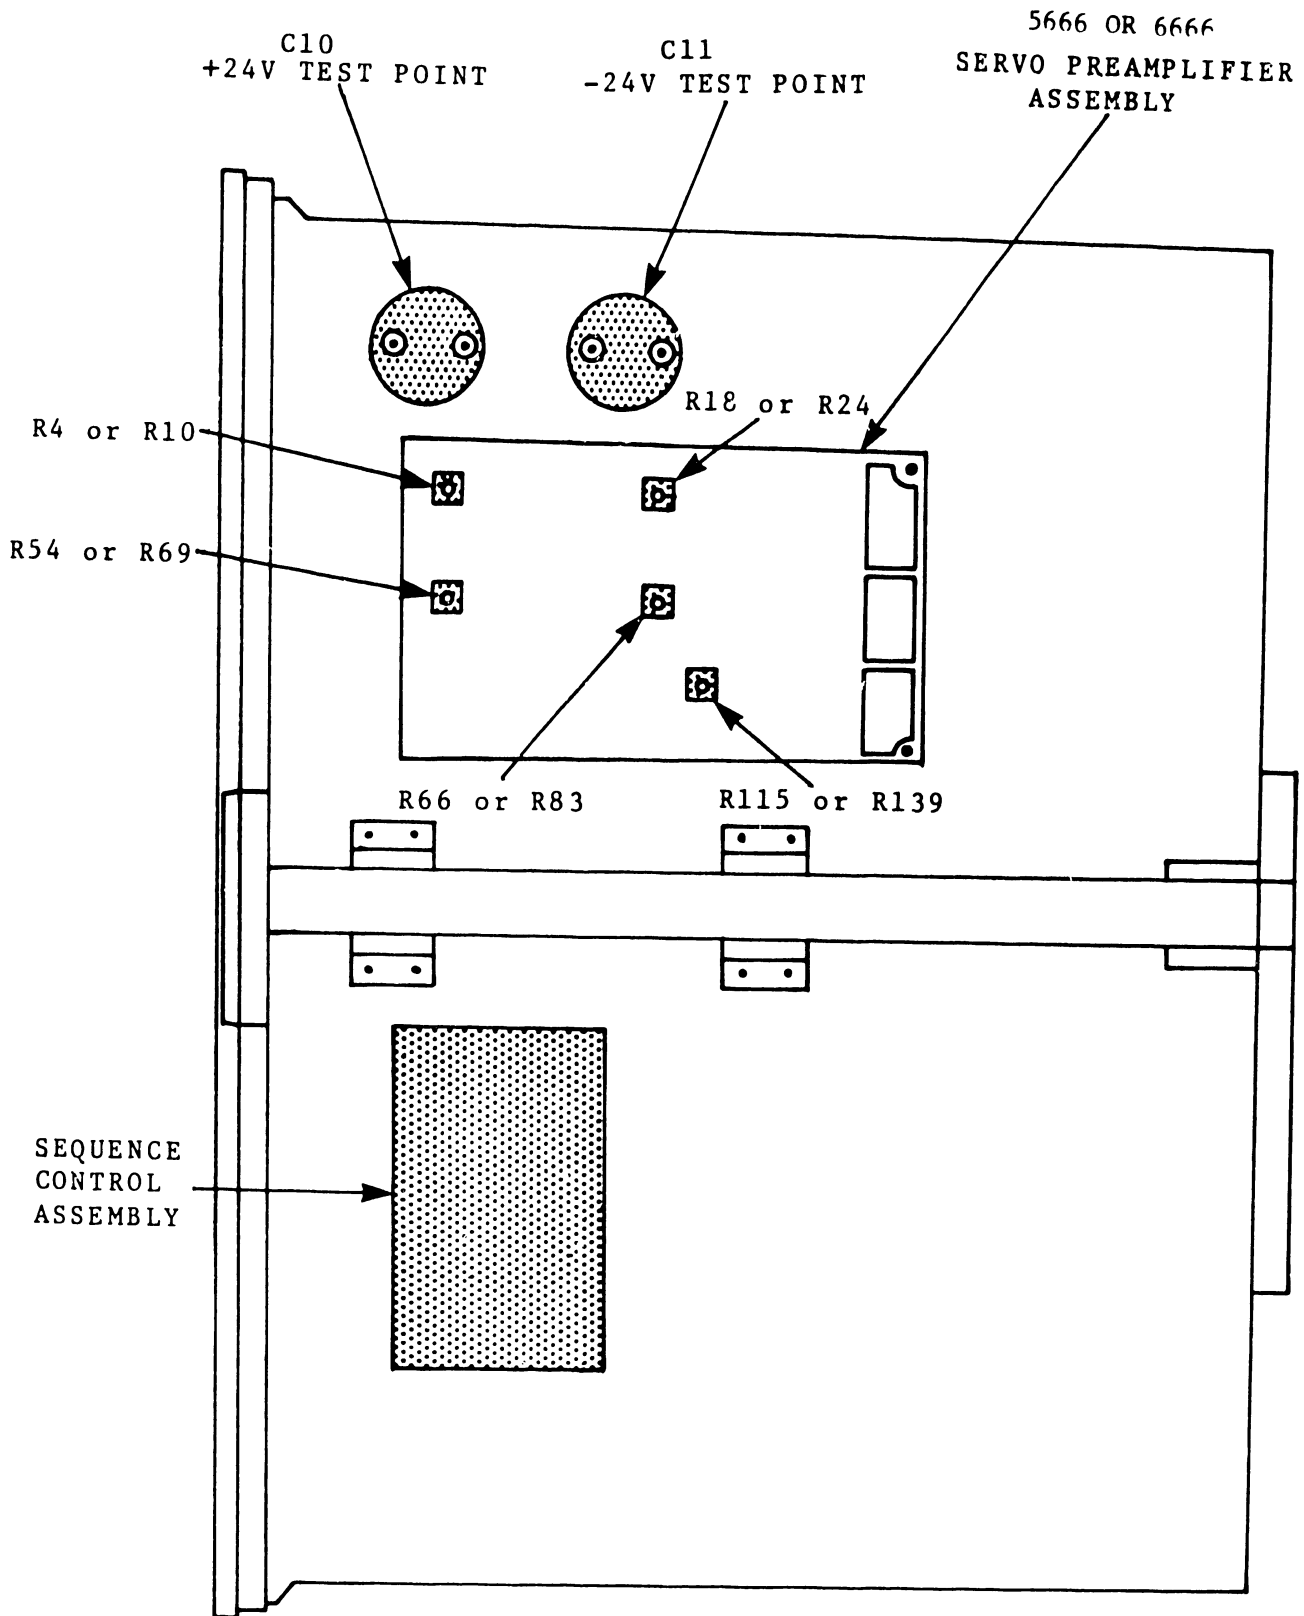
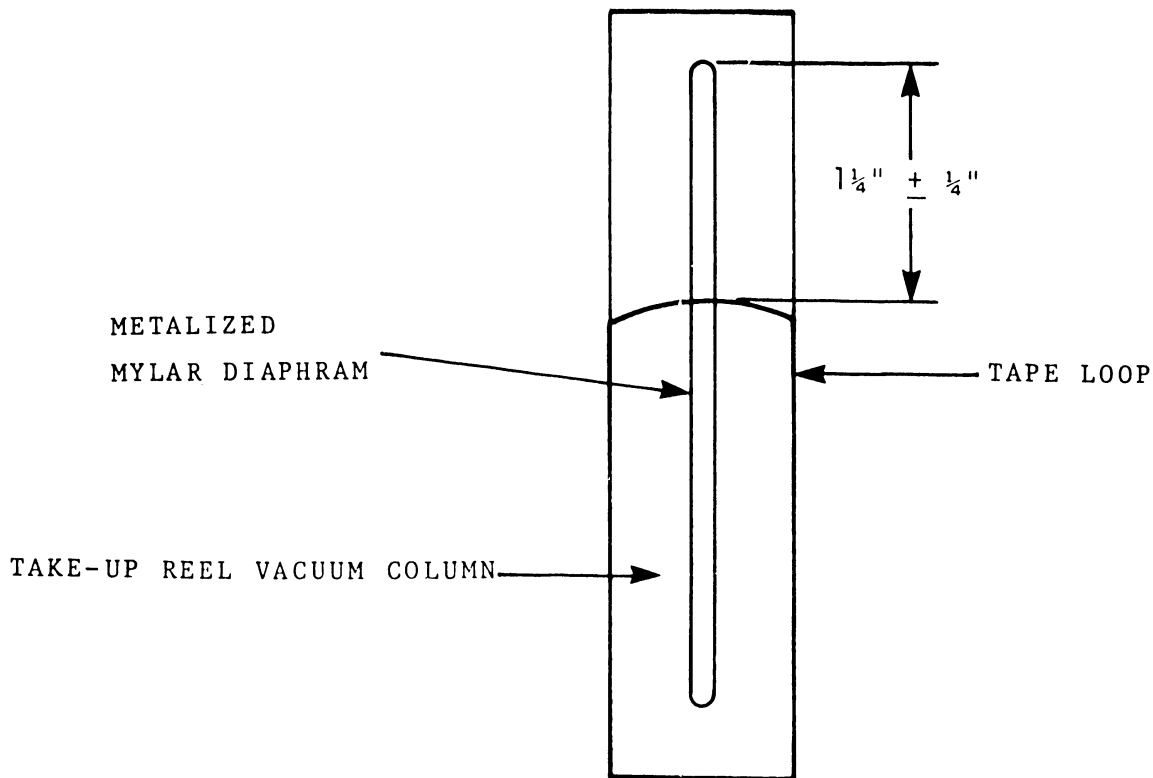
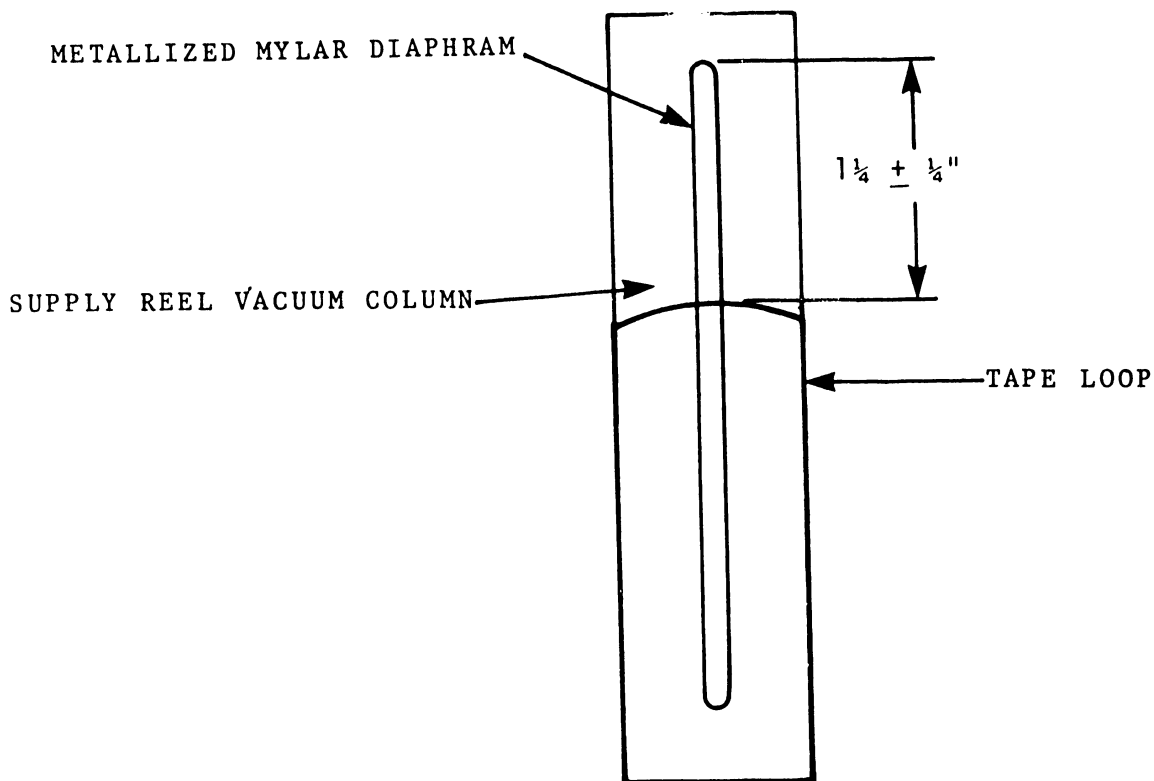

FIGURE 4-87 RIGHT SIDE VIEW OF TAPE CHASSIS
FIGURE 4-91 TAKE-UP REEL VACUUM COLUMN
FIGURE 4-92 SUPPLY REEL VACUUM COLUMN
+24 (+3)	For test point use C10 on the right side of the tape drive chassis (Figure 4-87).
-24 (-3)	For test point use C11 on right side of tape drive chassis (Figure 4-87).
+10V (+.5V, -.2V)	Use test point "A" on the Sensor Amplifier/Drive card in the logic chassis (Figure 4-87).
-10V (+ 8)	Use test point "B" on the Sensor Amplifier/Drive card in the logic chassis (Figure 4-87).
+5V (+ 0.25)	Use test point "C" on the Sequencer Amplifier/Driver card in the logic chassis (Figure 4-87)
- b. Adjust R10 on the servo preamp card (Figure 4-87) until tape loop is centered in the supply vacuum column.
- c. Using R69 on the servo preamp card (Figure 4-87) repeat step a and b for the takeup reel servo adjustment.
If the tape drive servo preamp card is type 5666 rather than 6666 use potentiometer R4 instead of R10, and R24 instead of R69. These pots are in the same physical locations on the respective cards. (See Figure 4-87)
- (1) Tape must be loaded and be advanced to the load point.
- (2) Place tape drive in the FORWARD RUN mode.
- (3) Adjust potentiometer R83 (See Figure 4-87) so that the tape loop rides at $1\frac{1}{4}'' \pm \frac{1}{4}''$ from the top of metallized mylar diaphragm in the take-up reel vacuum column (See Figure 4-91).
- (4) Depress STOP on the test panel; then place tape drive in the REVERSE Mode.
- (5) Adjust potentiometer R24 (See Figure 4-87) so that the tape loop rides at $1\frac{1}{4} \pm \frac{1}{4}$ " from the top of the metallized mylar diaphragm in the supply reel vacuum column (See Figure 4-92).
3. Advance the tape to load point and adjust potentiometer R139 (Figure 4-87) to bring measured voltage to zero.